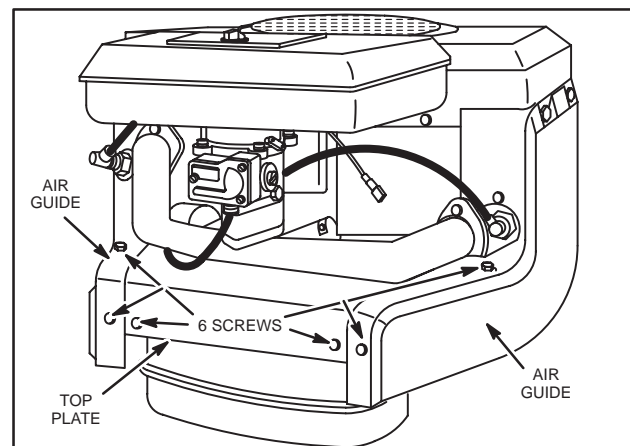

Fig. 8 – Loosen Top Plate
1. Remove six (6) screws holding top plate to cylinder air guides, Fig. 8.